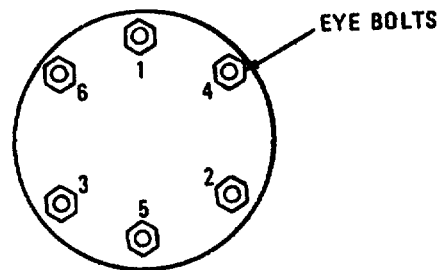

FIGURE 3-11. CARTRIDGE FILTER END PLATE (NUT TIGHTENING SEQUENCE)
- (3) Slide eyebolts (4) into cover brackets (7) and tighten in the order shown in figure 3-11.
- (4) Attach quick-disconnect to vent (8).